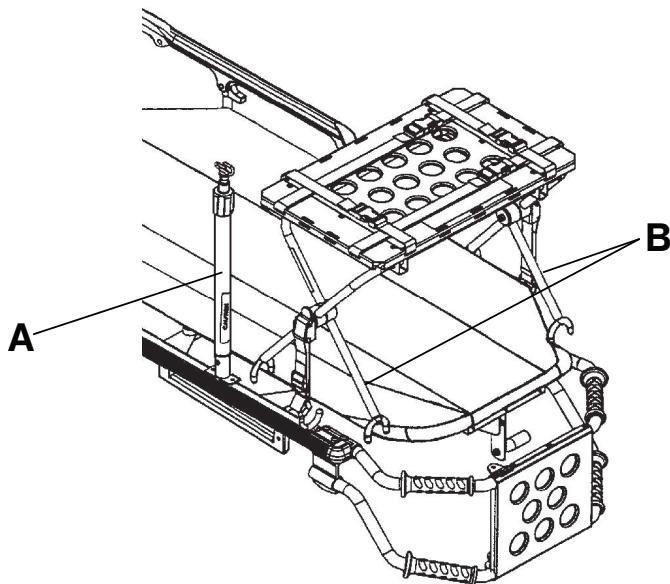

Figure 39 – Raise IV pole and position defibrillator tray (Model 6506 shown)
3. If the product is equipped with an IV pole, raise the IV pole (A) to the up position (Figure 39).
5. Position the inside legs (B) of the defibrillator platform toward the head end of the product (Figure 39).